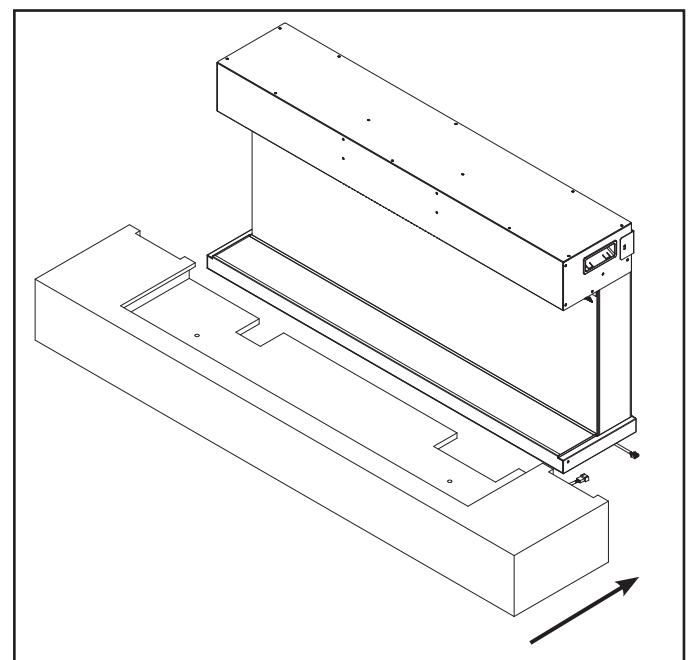

Figure 6
1. Slide the bottom mantel section onto the appliance and connect the bottom mantel wire connection to the appliance wire connector protruding from the bottom of the appliance (the cover plate on the bottom of the appliance may need to be removed to access the wire connector). See Figure 6.